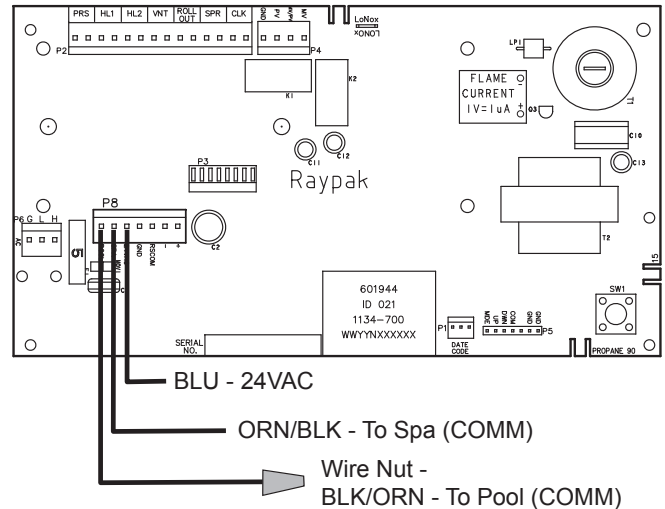

Figure 56. 2-Wire Remote Harness Installation on the P8 Connector of the Board
- Install the "7-Pin Remote Interface Harness" to the P8 connector and turn power "ON" to the heater. See **Figure 56**.